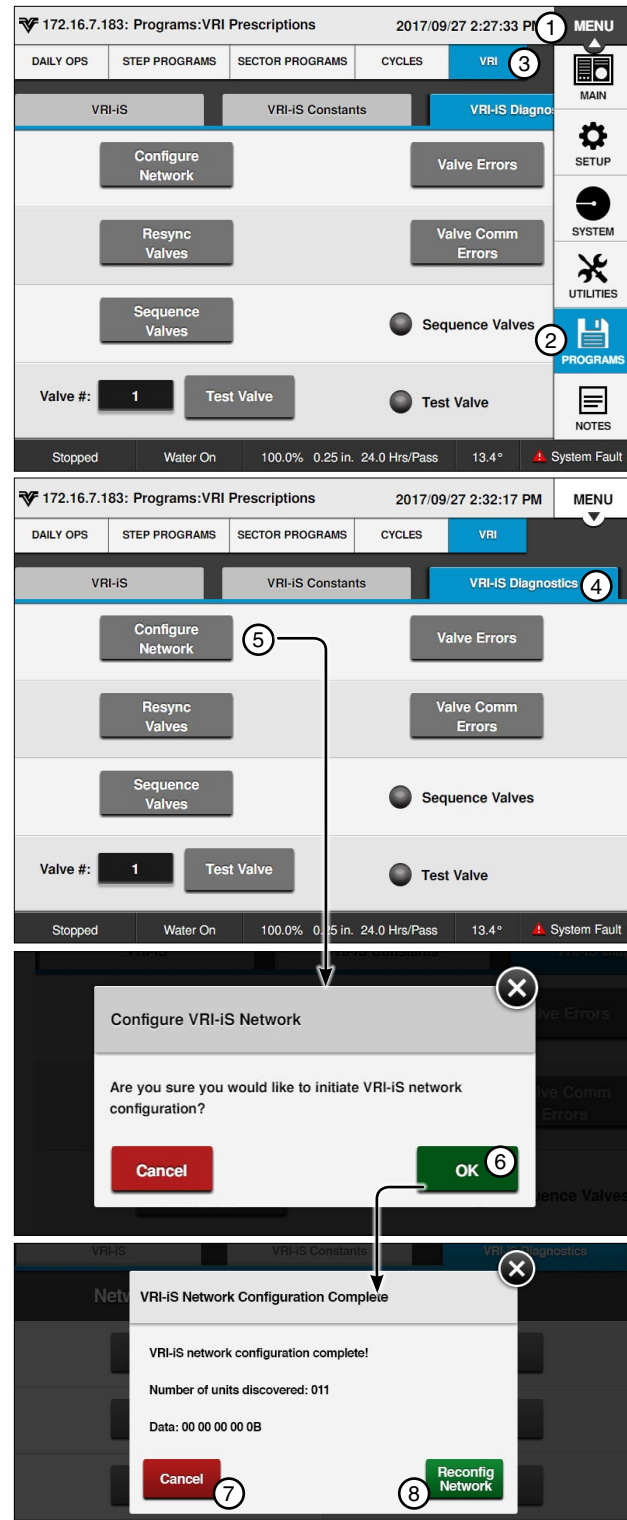

Figure 176-1 1. Menu 5. Configure Network
1. Push **Menu**, **Programs**, **VRI**, and **VRI-iS Diagnostics** to display the VRI-iS diagnostics screen. Refer to Figure 176-1.